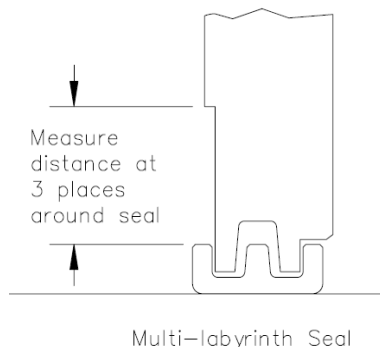

Figure 9:
10. With the mounting bolts snug, check the alignment and freedom of rotation. **"B" seals:** Visually check the clearance between the shaft and the bore of the seal. This clearance is small and can be visually checked for uniformity all the way around the seal. **"R" or "H" seals:** Measure the distance between the outside diameter of the seal and the diameter of the housing counterbore in three places. Be sure that each measurement is taken 90 degrees from the previous measurement. All three measurements should be uniform to insure proper alignment. See Figure 9. Align by shimming or shifting as necessary. Use large area shims to avoid distorting the housing and pinching the bearing. Appropriate use of stop bars against faces or ends of feet opposite the direction of load or vibration to avoid shifting of the housing is recommended. Dowel pins can be equally effective if properly used. This is especially important where loads are not directly down through the base. Finally, tighten or torque mounting bolts securely. Up to SAE Grade 5 mounting bolts can be used, properly torqued, to mount cast iron housings (see table 7A). Up to SAE Grade 8 mounting bolts can be used, properly torqued, to mount cast steel housings (see table 7B).